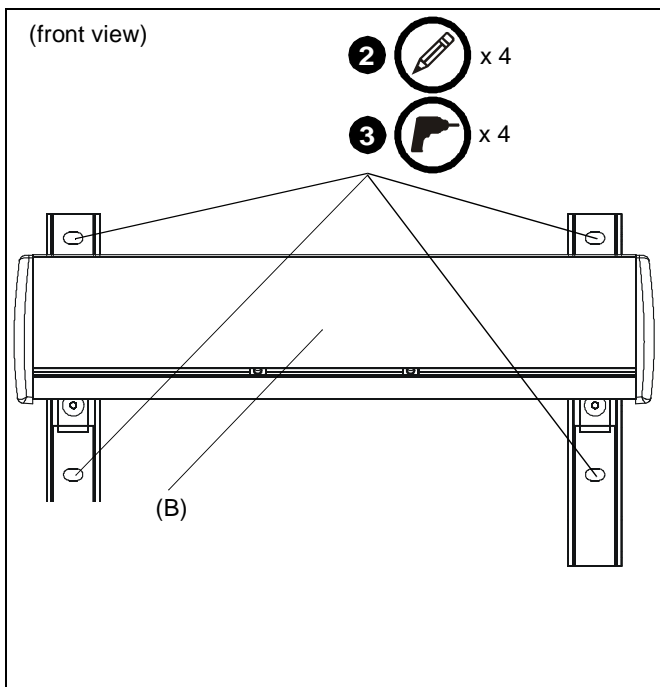

Figure 1
2. Using mounting bracket (B) as a template, mark four holes at the holes in bracket. (See Figure 1)
3. Drill four 3/8" holes at marked locations in wall. (See Figure 1)